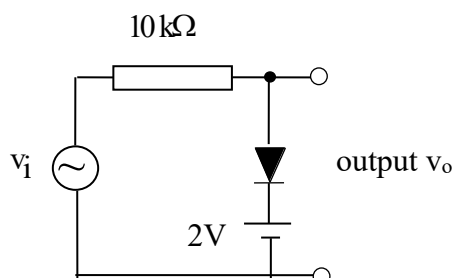

Figure 2: Clipper circuit (+ voltage source)
- Insert the dc power supply (set to 2V) between the diode and ground as shown in the Fig. 2 given below.